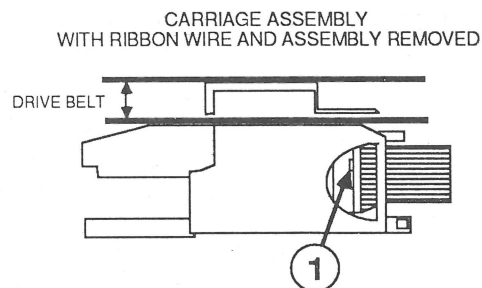

FIGURE 11
2. Insert the flathead screwdriver into the notch on the flexible cable connector (Figure 11, #1). Gently turn the screwdriver, and the connector will pop out about 1/4 inch.
3. Push the carriage assembly to the middle. Insert the other end of the flexible cable in the connector (Figure 11, #1). Push the connector in.